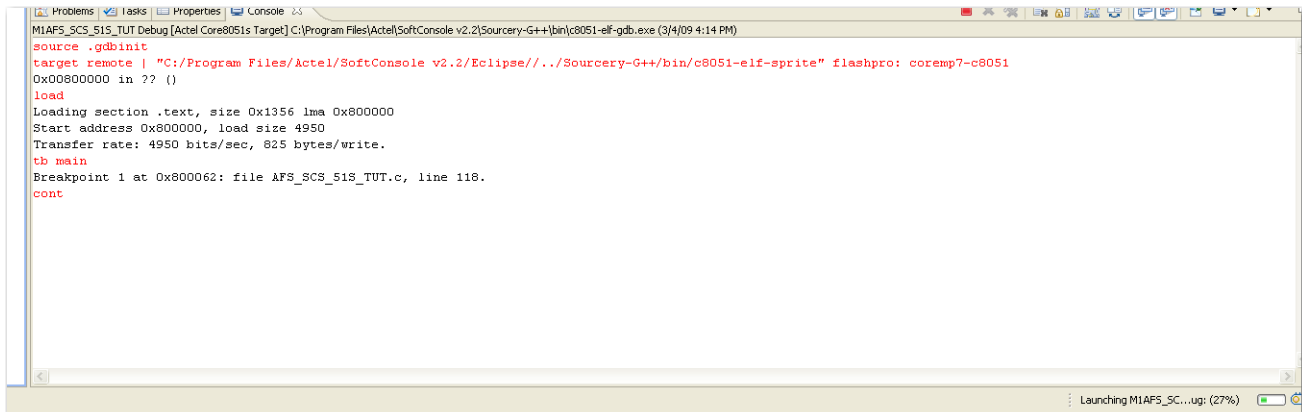

Figure 3-5 · Console Communications
3. You should see some communications in the console window and see your file loading status in the lower right of the console window (Figure 3-5).